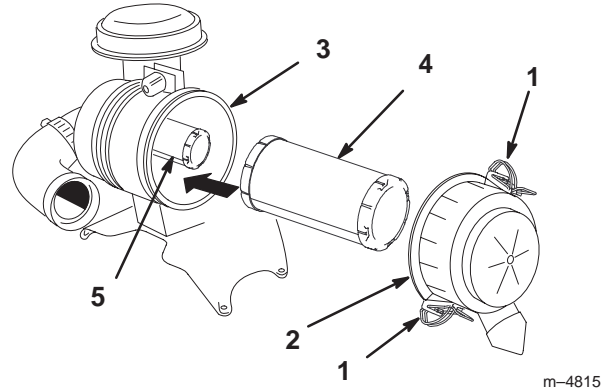

Figure 34
2. Release the latches on the air cleaner and pull the air cleaner cover off of the air cleaner body (Fig. 34).
4. Gently slide the primary filter out of the air cleaner body (Fig. 34). Avoid knocking the filter into the side of the body.
2. If the safety filter is being replaced, carefully slide it into the filter body (Fig. 34).
3. Carefully slide the primary filter over the safety filter (Fig. 34). Ensure that it is fully seated by pushing on the outer rim of the filter while installing it.
4. Install the air cleaner cover with the side indicated as UP facing up and secure the latches (Fig. 34).